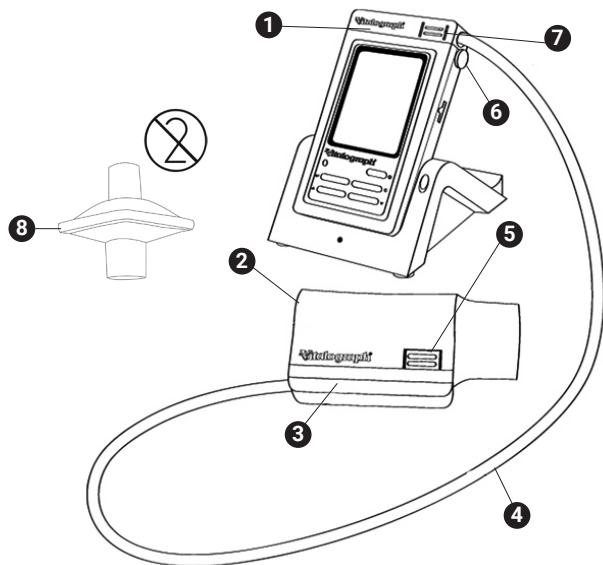

Figure 2: Setting up the In2itive remote flowhead
The In2itive flowhead can be set up to work remotely from the device as follows (see figure 2):
7. Attach the remote flowhead to the port on the In2itive device cap using the Flowhead Connection Tube as shown in Figure 2.